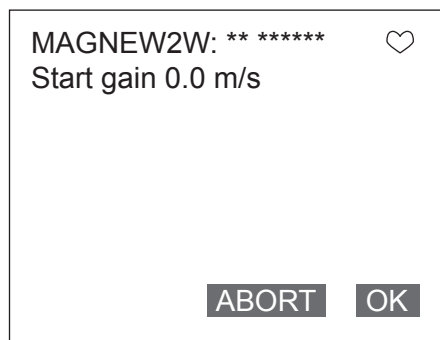

Figure 7-50
- 5. Figure 7-50 will then appear. When executing the adjustment, press F4 (ENTER) to start the adjustment.